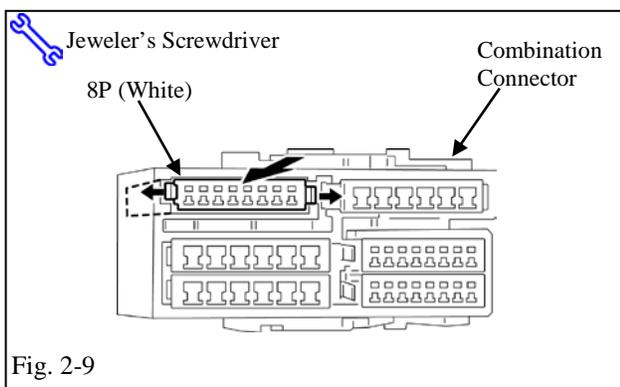

Fig. 2-9
- (o) Using a small jeweler's screwdriver, release and pull out the white 8P connector from the combination connector. (Fig. 2-9)
- (1) Turn the connectors so the pins face you.